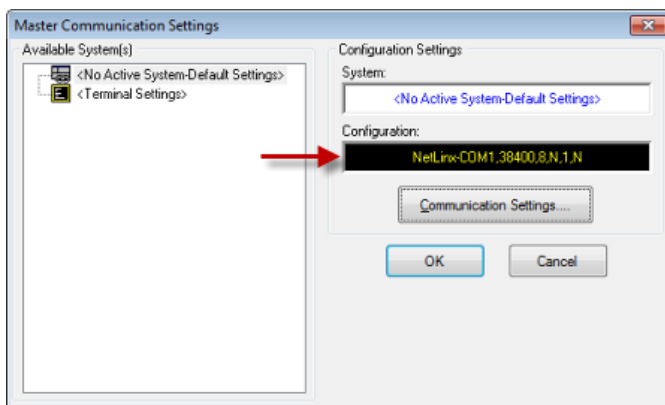

FIG. 6 Master Communication Settings dialog indicating a Serial Connection
8. Note that the serial configuration is indicated in the *Configuration* text field (FIG. 6):